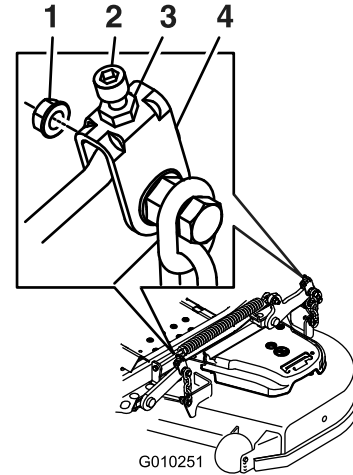

Figure 87
- 10. If needed, loosen the whizlock nut on the side of the yoke and the jam nut on top. Fine tune the screw adjuster by turning it to get 3 inch (7.6 mm) height (see Figure 87).
- Fine tune the screw adjuster by turning it to get 3-1/4 inches (8.3 mm) height (Figure 87).